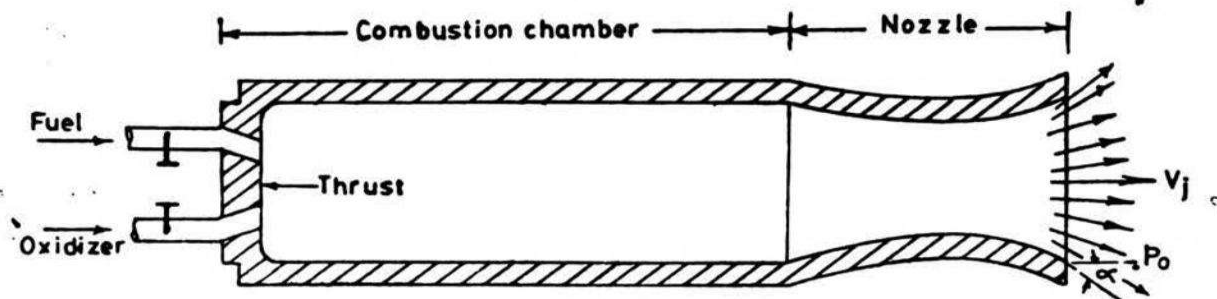

Fig. 5-7. Schematic diagram of a liquid bi-propellant uncooled rocket motor.
**5.6.1 Basic Theory :** Figure 5-7 shows a schematic diagram of a liquid bi-propellant rocket engine. It consists of an injection system, a combustion chamber, and an exit nozzle. The oxidizer and fuel burnt, in the combustion chamber produces a high pressure. The pressure produced is governed by